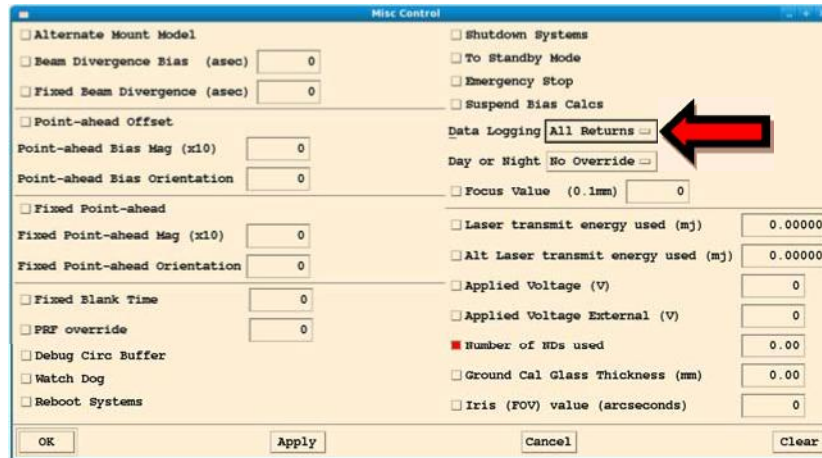

Figure 4-10: The Misc Control window showing All Returns selected
- Begin to collect data** – Open the *Misc Control* window, go to *Data Logging*, select *All Returns*, and apply changes to begin collecting data (Figure 4-10).